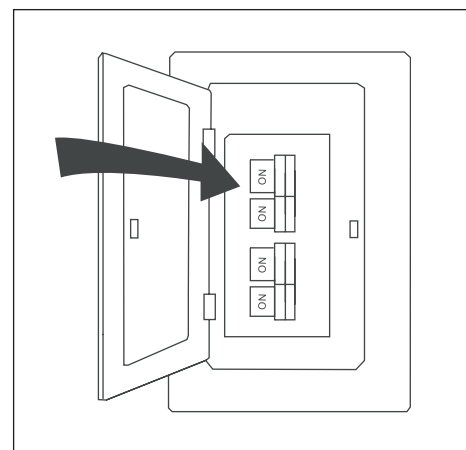

Figure 5.8
8. Turn ON the electrical power at the main fuse or circuit breaker and the wall switch. Assembly is complete (Figure 5.8).